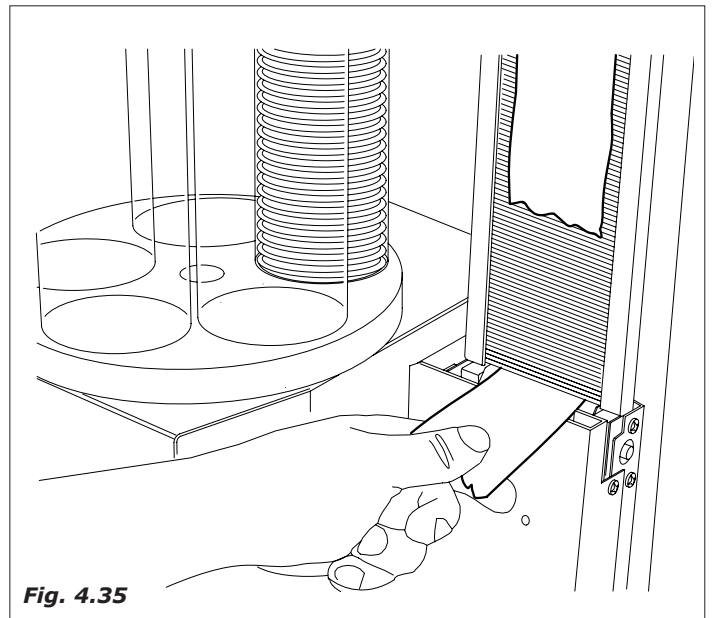

Fig. 4.35
- insert the spoons with their pack wrapping in the column and when they are positioned on the bottom cut and remove the wrapping (Fig. 4.35)